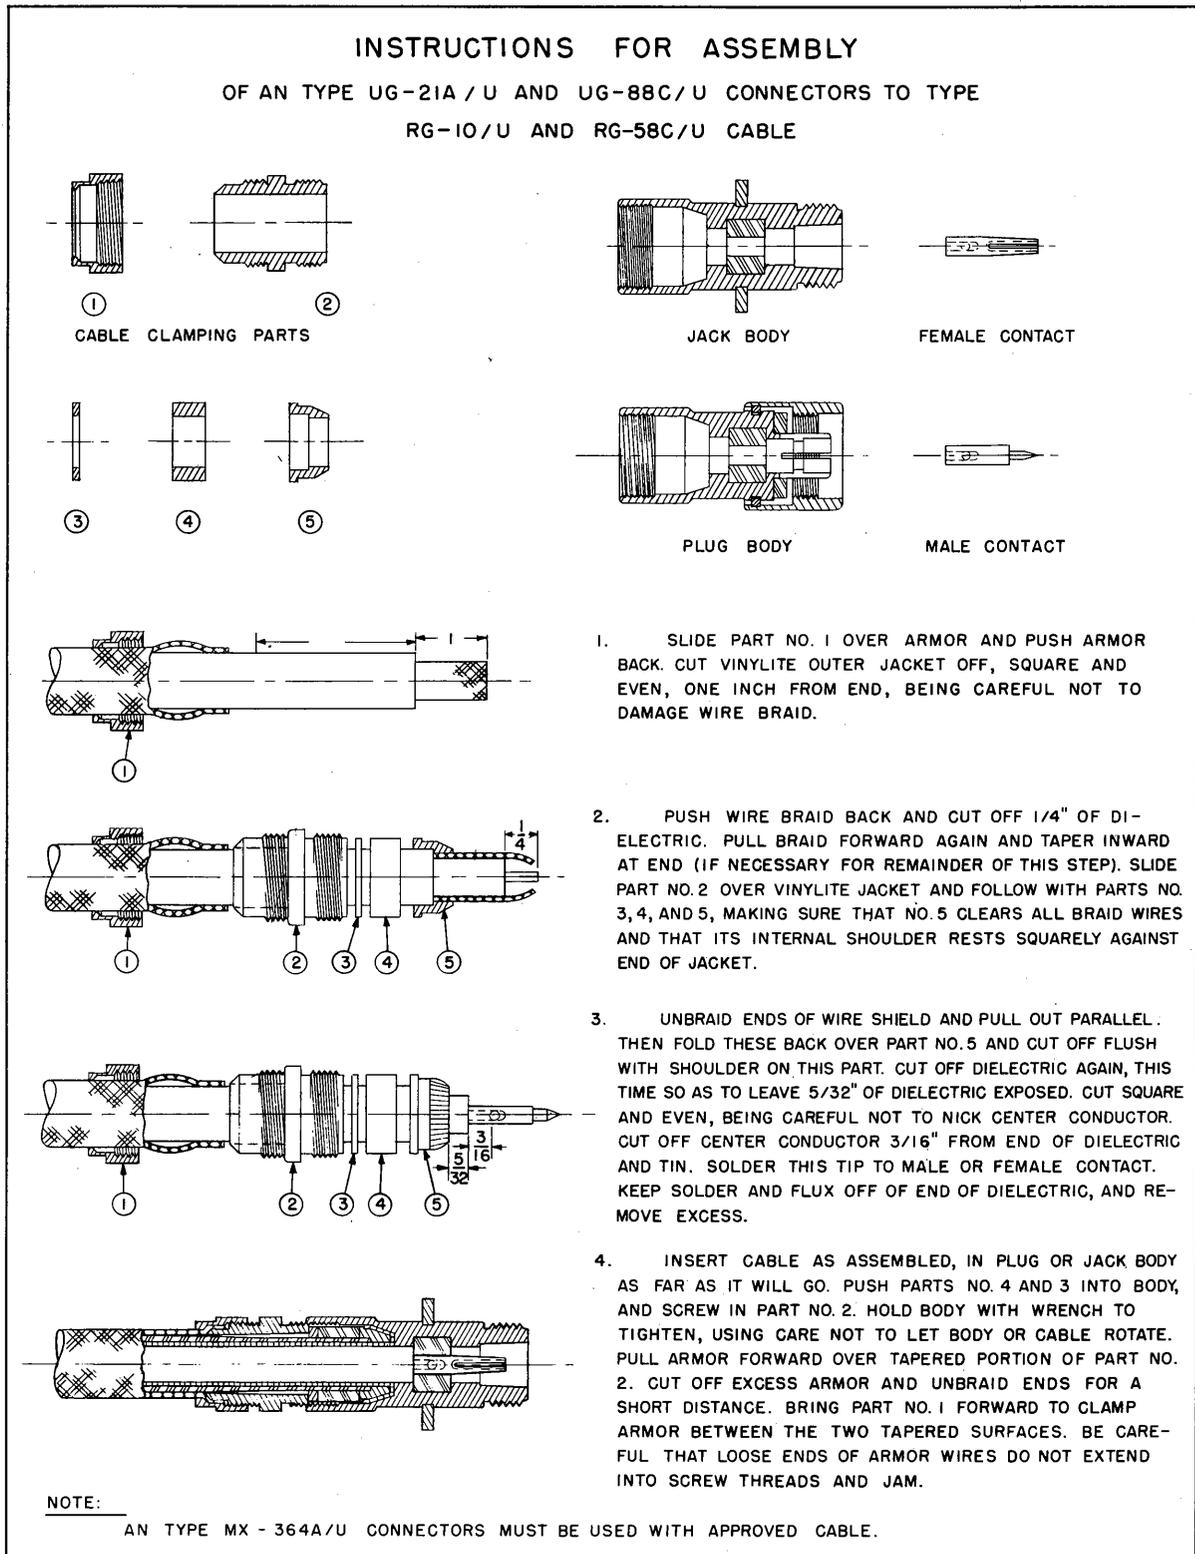
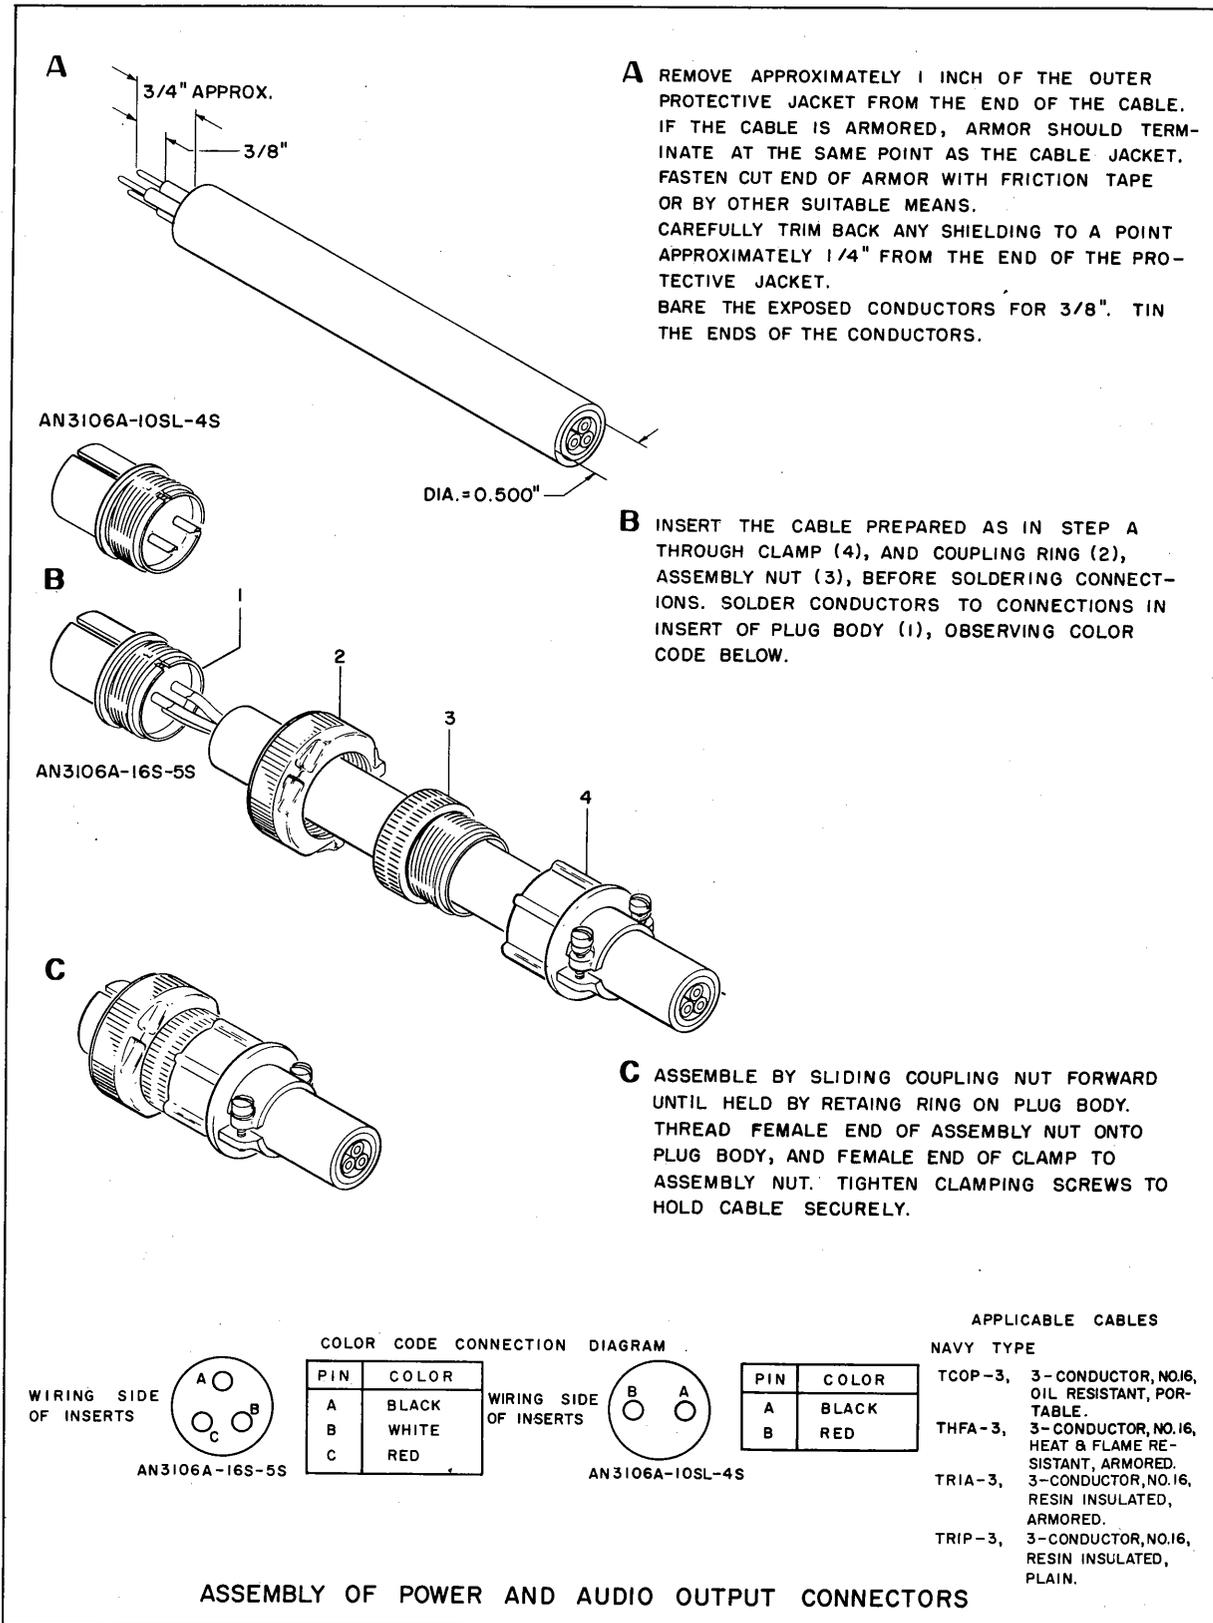

Figure 2-8. Antenna Input Connector Assembly
Figure 2-9. Power and Audio Output Connector Assembly
(1) ASSEMBLY OF EXTERNAL CABLING.—Figure 2-8 illustrates the method of assembling the JAN-type UG-21/U plug to RG-10/U cable to form the antenna input connection. These instructions are applicable also to the assembly of type UG88C/U plug to RG58C/U cable for use with an external frequency standard. Figure 2-9 shows the assembly method for attaching type AN3106A-16S-5S and type AN3106A-10SL-4S plugs to the appropriate cabling to make up the ac power input and two audio output connectors. Detailed instructions for the assembly of electrical connectors is contained in NAVSHIPS 900171, Chapter 5. Chapter 6 of the same publication gives complete cabling instructions.